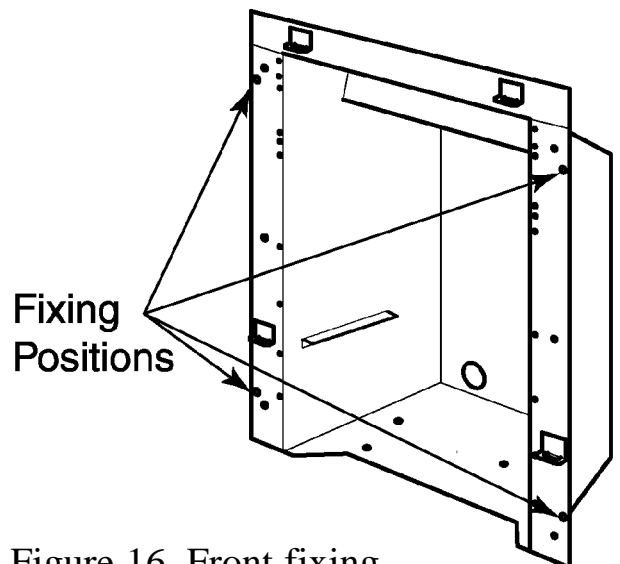

Figure 16. Front fixing
3. Mark the fireplace front surround through the four fixing holes in the side flanges of the hotbox (See figure 16).